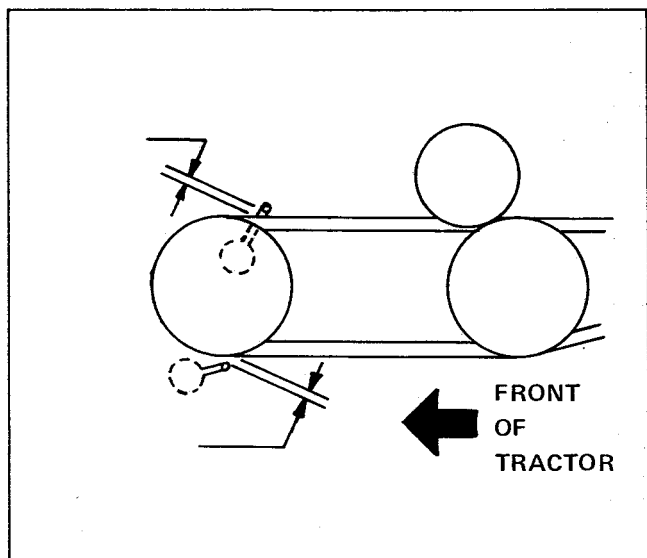

FIGURE 5.
The belt stops are located above and below the drive pulley. (See Figure 5.)
1. The belt stop located above the drive pulley (if needed) is mounted on the top mounting screw of the bevel gear case with a special cap-screw which replaces the original. This belt stop should be adjusted to 1/4" clearance as shown in figure 5.
3. While holding the capscrew with a wrench so it will not turn, loosen the nut located on the other side of the mounting plate (see figure 5) enough so the belt stop can be moved. Adjust the belt stop so there is 1/16" to 1/8" clearance between it and the drive belt.